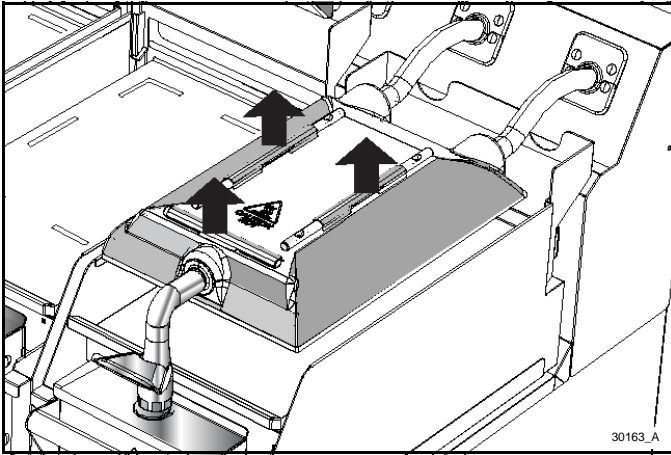

Figure-145
12. Remove the release sheet locking clips and the upper release sheets. Wash and rinse the clips in the three-compartment sink. If necessary, soak them in a hot solution of SolidSense APSC to remove carbon accumulation. See Figure-145.